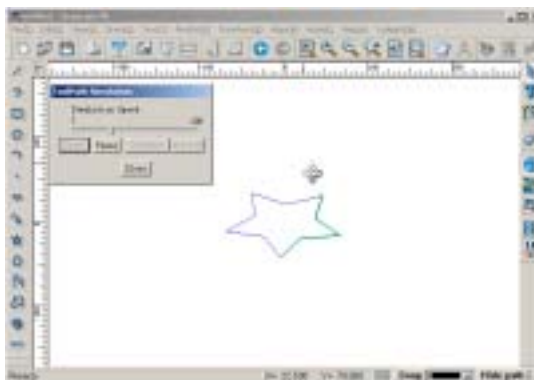

Fig. 10-80
4. Click on Continue to resume simulation from where it stopped. (Fig. 10-80)